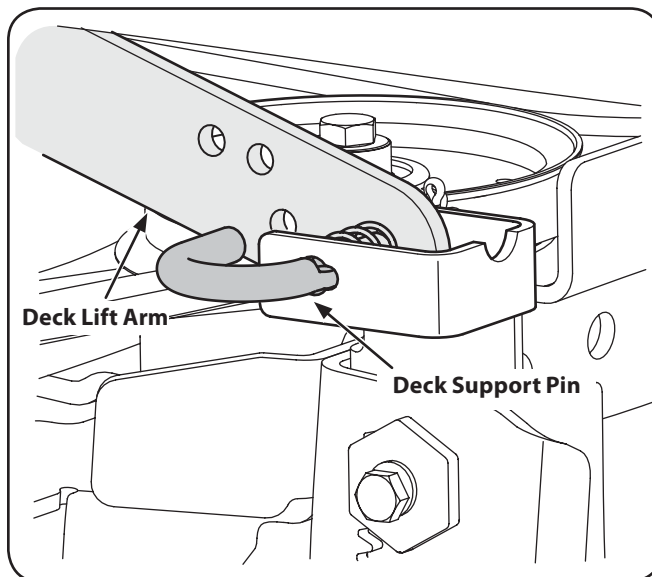

Figure 7-3
5. Pull the deck support pin outward to release the deck from the deck lift arm. See Fig. 7-3.